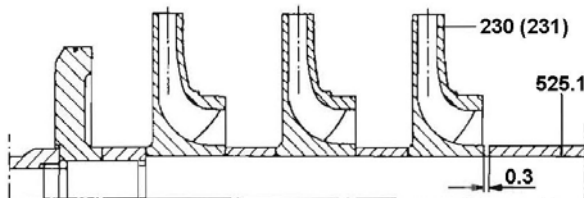

Figure 35 – Axial rotor clearance (sizes 40 and 50)
3. Screw the shaft protecting sleeve (524.2) onto the shaft and tighten. Check that the axial clearance between the impeller (230) and shaft protecting sleeve (524.2) is 0,3 mm. Adjust if necessary by remachining the spacer sleeve (525.1) - see fig. 35.
Check the axial clearance of the rotor components before mounting the rotor. Slip the impellers, stage sleeves, balance disc and spacer sleeves (525.1/2) onto the shaft and tighten both shaft protecting sleeves. The axial clearance should be 0,3 mm (see Fig. 35) if necessary machine the spacer sleeve (525.1) to achieve this. This is generally necessary if replacement spacer sleeves have been fitted.